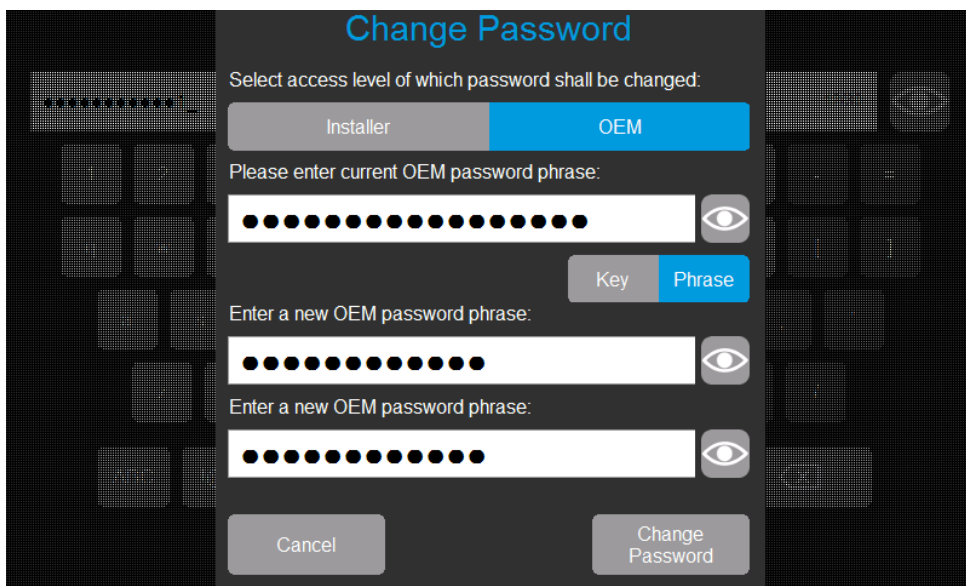

Fig. 73: Change OEM password dialog box with entered password.
5. When the Change Password dialog box reappears (refer to Fig. 73), select Change Password.
- b. If No is selected, the Password Changed confirmation dialog box will close and the user will stay logged in with the old password, with the Change Password dialog box open (refer to Fig. 73).